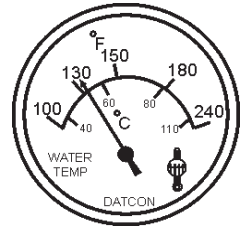

Figure 50. Coolant Temperature Gauge
9. The **coolant temperature gauge** (Figure 50) will indicate the coolant temperature. Under normal operating conditions the coolant temperature should be between 165~203 °F (74~95 °C), **Green Zone**.